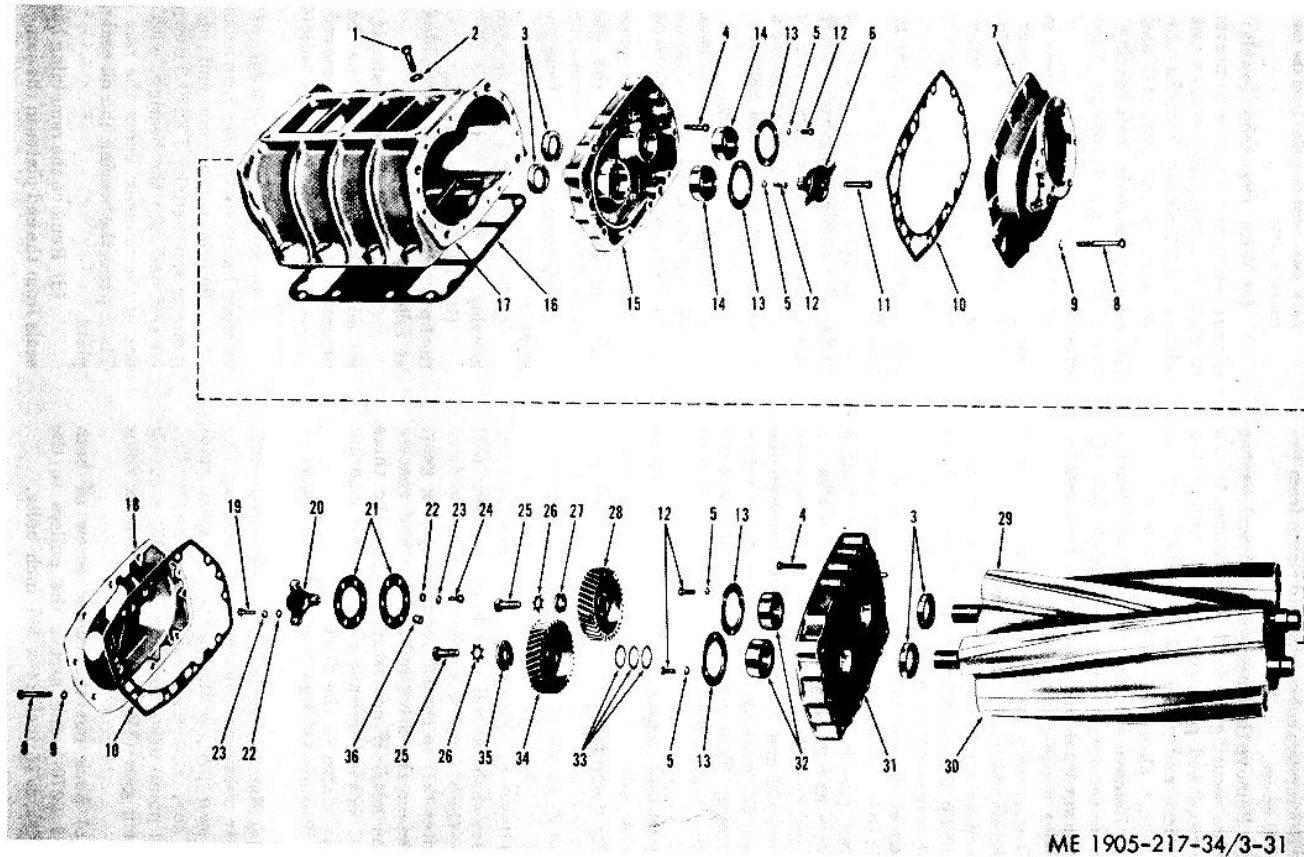

Figure 3-31. Blower, disassembly and reassembly.
- (7) Loosen the blower drive shaft cover seal clamp at the blower drive gear hub support.
- (8) Remove the bolts and plain washers securing the blower to the cylinder block. Slide the blower slightly forward, withdraw the blower drive shaft cover from the seal, then lift the blower away from the cylinder block.
- (9) Remove the three bolts and seal washer assemblies securing the fuel pump to the blower rear end plate cover, then remove the fuel pump, gasket and drive coupling fork.
- (10) Loosen the seal clamp securing the blower drive shaft cover to the blower end plate cover, then remove cover, seal and clamp from the end plate cover.
(11) Remove the three bolts and seal washer assemblies securing the fresh water pump to the blower front end plate cover, then remove the water pump and gasket. If necessary, tap the pump with a plastic hammer to loosen it.
(12) Remove the six bolts and seal washer assemblies securing the governor weight housing to the blower front end plate cover, then remove the weight housing and gasket.
b. *Disassembly.* Refer to figure 3-31 and disassemble the blower as follows:
(1) Remove the ten bolts (8) and lockwashers (9) securing the end plate covers (7) and (18) to the blower front (15) and rear end plates (31). Tap the ends of the end plate covers with a plastic hammer to loosen the covers from the gaskets (10) and dowel pins in the end plates. Then, remove the covers and gaskets from the end plates.
(2) Place a clean folded shop towel between the rotors (29 and 30) and a towel between the rotor and the housing (17) to prevent the rotors from turning. Then, remove the bolt securing the water pump drive coupling (6) to the blower rotor shaft.
(3) Thread adapter J 6471-4 (1/2 inch-20 threads) or adapter J 6471-10 (9/16 inch-18) into the water pump drive coupling, then attach slide hammer and shaft J 6471-1 to the adapter and pull the drive coupling from the blower rotor shaft.
(4) Refer to figure 3-31 and remove the bolts (19), lockwashers (23) and plain washers (22) securing the blower rotor drive hub (20) and drive hub plates (21) to the blower rotor timing gear, then remove the drive hub, plates and spacers from the gear. If necessary, remove the three bolts(24), lockwashers and plain washers securing the drive plates to the drive hub.
(5) Remove the blower rotor timing gears as follows:
Key to figure 3-31.
(1) Replace any damaged or defective parts as required.
(2) Replace gaskets.
e. Reassembly. The lobes on the upper blower rotor and the teeth on its gear form a right-hand helix while the lobes and teeth of the lower rotor and gear form a left-hand helix. Therefore, a rotor with right-hand helix lobes must be used with a gear having right-hand helix teeth and vice versa. With this precaution in mind proceed with blower assembly, referring to figure 3-31. Install the lip type oil seals (3) as follows:
(1) Support the blower end plate, finished surface facing up, on wood blocks on the bed of an arbor press.
(a) Lubricate one of the roller bearings (14, figure 3-31) with engine oil. Start the bearing, numbered end up, straight on one of the rotor shafts.